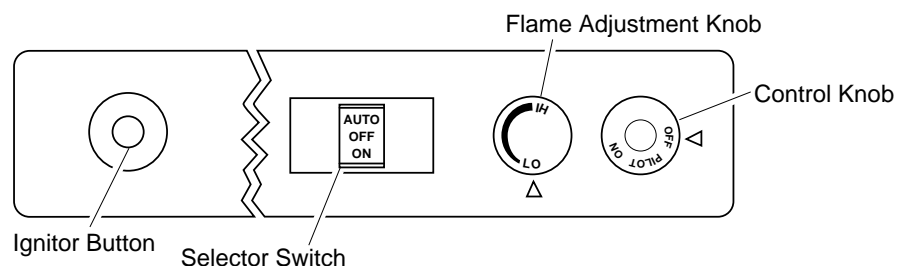

Figure 20 - Control Knob and Ignitor Button Location (Shown as Supplied, No Control Options)
5. Wait five (5) minutes to clear out any gas. Then smell for gas, including near the floor. If you smell gas, **STOP!** Follow "B" in the safety information, column 1. If you don't smell gas, go to the next step.
6. Press in and turn control knob counterclockwise to the PILOT position. Press in control knob for five (5) seconds (see Figure 20).